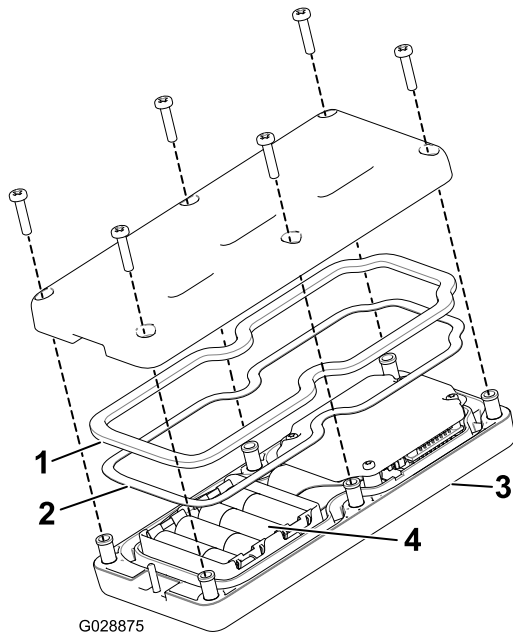

Figure 42
3. Remove the 6 screws from the back of the remote and remove the cover (Figure 42).
- Install the batteries into the terminal cradle observing proper polarity. The cradle is embossed with polarity markings for each terminal (Figure 42).
- If you accidentally removed the rubber seal and the steel gasket, replace them carefully into the channel in the handheld remote (Figure 42).
- Replace the cover and secure it with the 6 screws removed previously (Figure 42) and torque them to 1.5 to 1.7 N·m (13 to 15 in-lb).